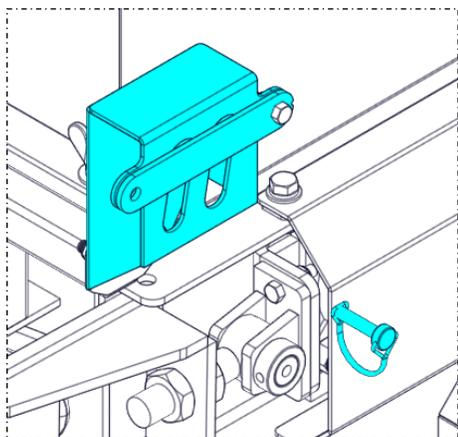

Figure 4.20
- A) Open the quick pin that is holding the lock plate and the front panel of the hose hanger (Figure 4.20).